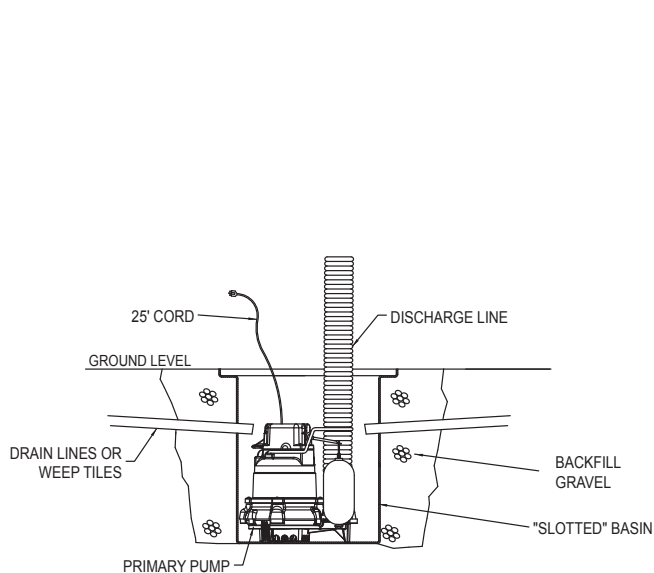

Figure 4.1
- 4.1) Backfill pit as shown in Figure 4.1 & 4.2.